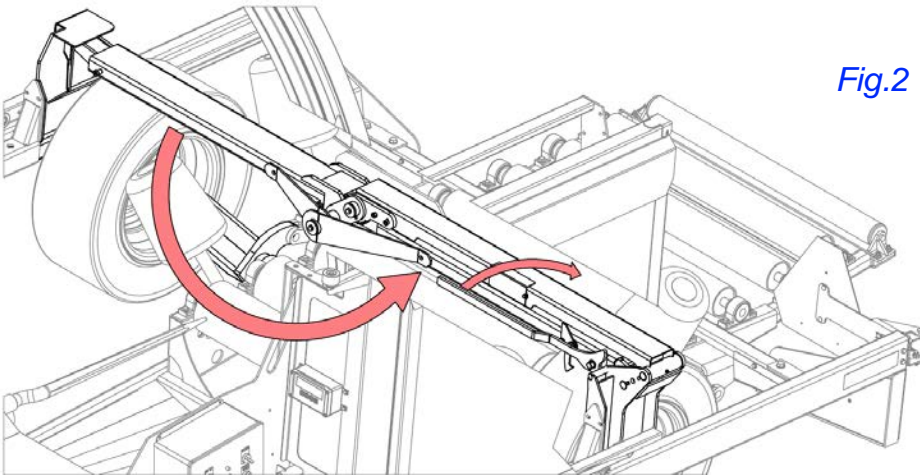

Fig.2
5. Raise dispatch arm to folded position with handle and lock latch if starting a new row. See Fig.2.